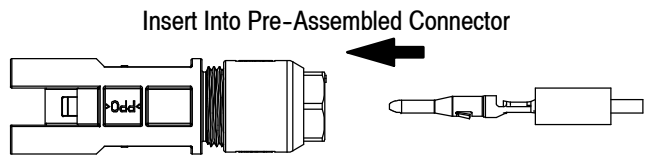

Figure 7
- Pre-assembled connectors are for wire insulation diameters 4.5–6.9 mm. Insert wire with contact directly into the pre-assembled connector. See Figure 7. All other wire insulation sizes follow instruction Steps 3 thru 5.
For pre-assembled connectors, insert contact as shown in Figure 7, until you hear the contact click into plastic housing; pull back to ensure the contact is locked.